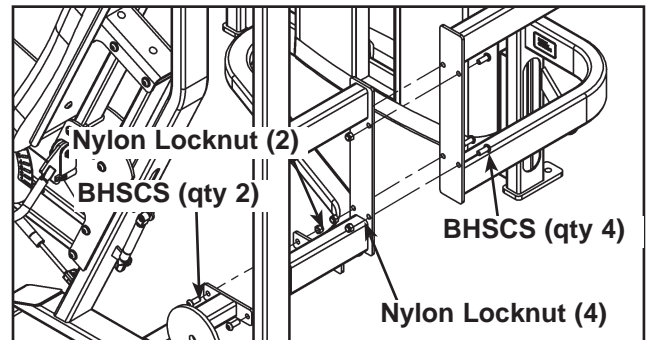

Figure 4
J. With an assistant, carefully remove the six BHSCS securing the two halves of the frame. See Figure 4.
L. With an assistant, carefully attach each half together using the six BHSCS removed in step 4J. See Figure 4.